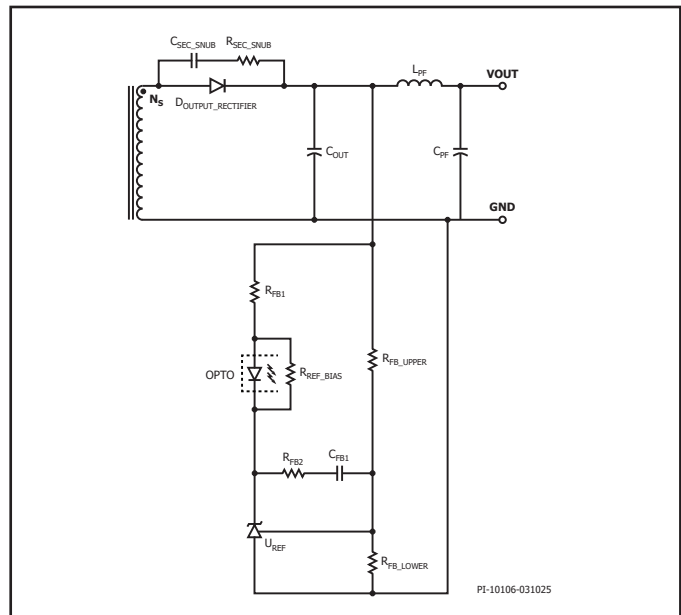

Figure 14. Secondary Output with Post Filter (L_{PF} and C_{PF}).
3. If a post filter is used, ensure that the output voltage sense resistor and optocoupler are connected before the post filter inductor. See Figure 14.